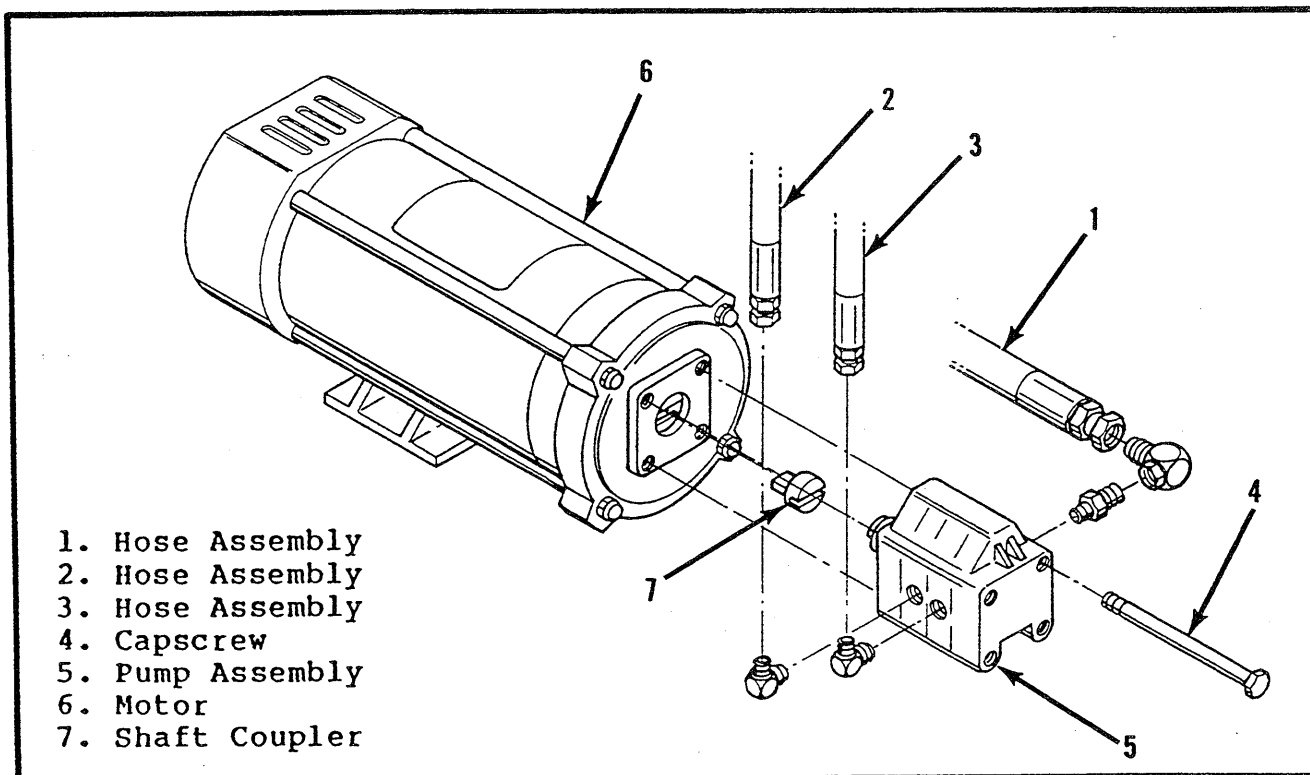

Figure 5-9. Hydraulic Pump Removal
(2) Connect Solenoid leads to terminal strip (as previously tagged).
(3) Connect hydraulic hoses. Be certain to tighten hoses to manifold.
(4) Operate each hydraulic function and check for proper function and leaks.
**5-18. HYDRAULIC PUMP (Figure 5-9).**
a. Removal (Figure 5-9).